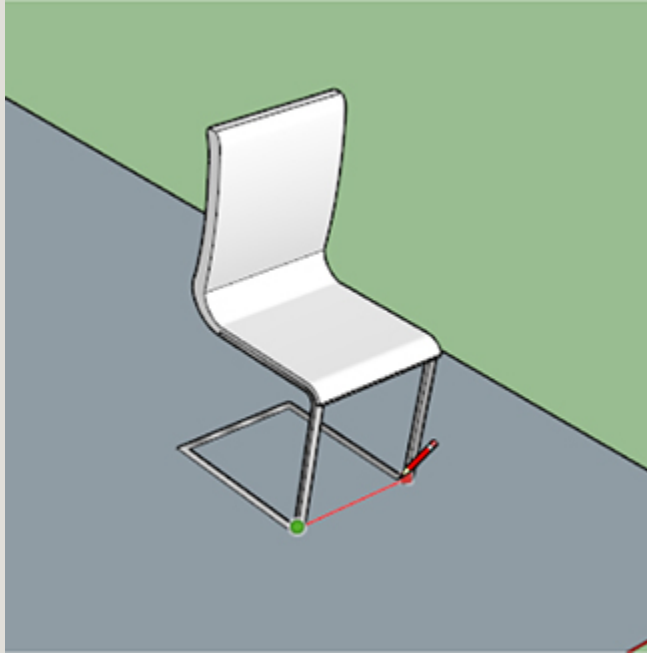

Figure 4-18 Draw a line that's the width of the chair and runs along the red axis.
2. Draw a line that's the width of the chair and runs along the red axis (Figure 4-18). Running along the red axis is critical, so watch for the red inference line.